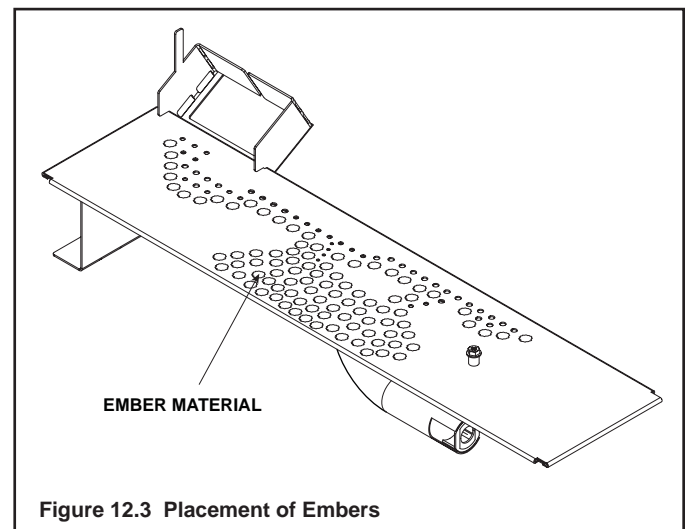

Figure 12.3 Placement of Embers
- When placing Glowing Embers® onto the burner care should be taken so that the ports are not covered. Place the dime-size ember pieces near the port holes in the burner top (see Figure 12.3 and 12.5). Failure to follow this procedure will likely cause lighting and sooting problems.